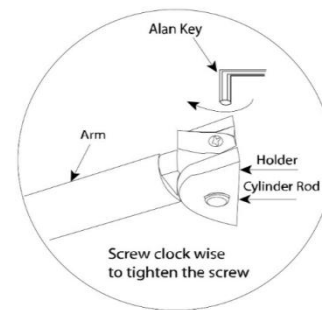

Figure 2.1
2. Fasten the cylinder rod lock with Hex key to prevent arm out off track as figure 2.1